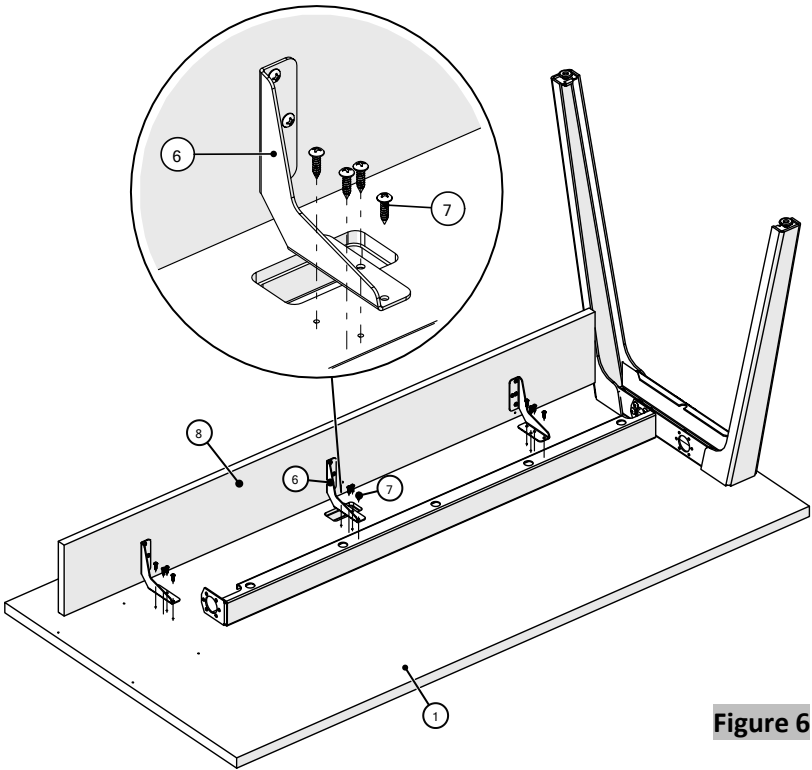

Figure 6
Position the cantilever brackets with modesty over pilot holes in underside of worksurface; insert (4) #8 x 5/8" Pan Quadrex drive screws per bracket and tighten, (Figure 6).